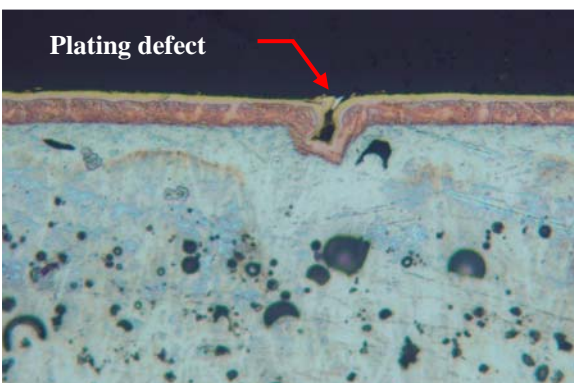

Figure 6: Cross-section of plating defect.
- Metallic plating on plastic substrates (Figure 6)